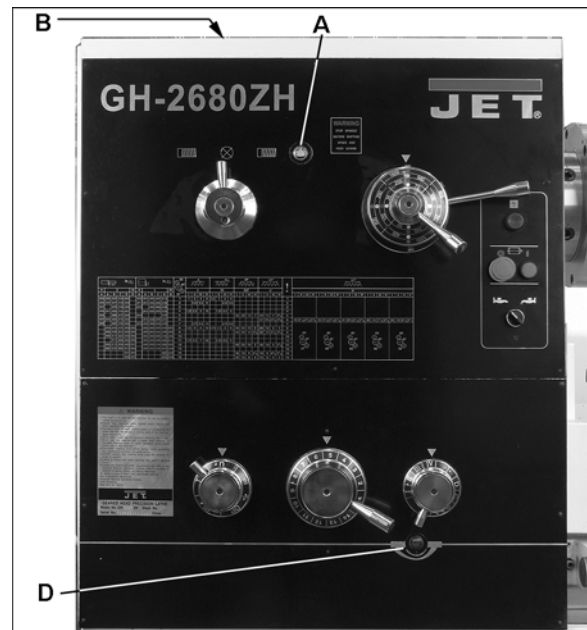
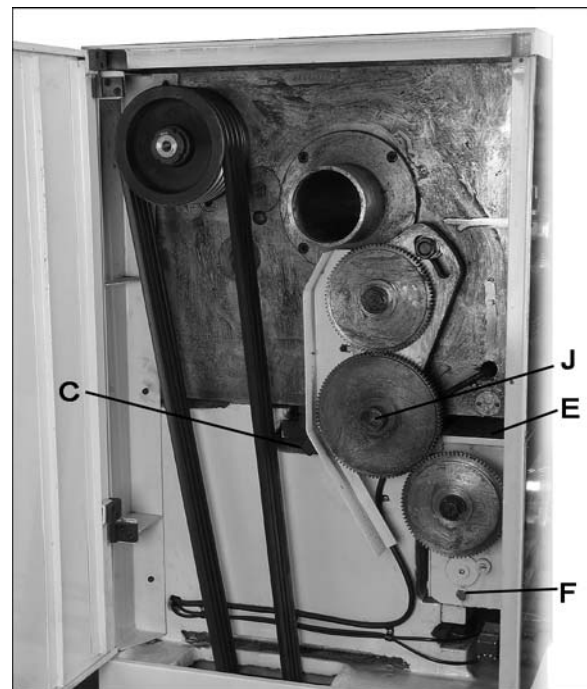

Figure 9 – Headstock lubrication
Figure 10 – Lubrication points
2. **Headstock** – Oil must be up to indicator mark in oil sight glass at the rear of the headstock. [NOTE: The sight glass on the front of the headstock (A, Figure 9) verifies operation of the oil pump, the one at rear of headstock (not shown) indicates oil level]. Top off with SAE 20W oil. Fill by removing the rubber mat and unscrewing the plug (B) on top of the headstock.
3. To drain the headstock, remove the nut on the drain pipe (C, figure 10). Drain oil completely and clean out all metal shavings, then rinse the casting case with kerosene.
5. **Change Gear Axle** – Periodically remove end plug (J, Figure 10) and press #2 lithium grease into the axle to lubricate the gear axle and sleeve. Coat all gears with non-slinging grease.
6. **Gearbox** – Oil must be up to indicator mark in oil sight glass (D, Figure 9). Top off with SAE 20W oil. To add oil to the gearbox, pour it into the pan (E, Figure 10). To drain, remove drain plug (F, Figure 10). Drain oil completely and refill after the first three months of operation. Then change oil in the gearbox every six months.
14. **Travel Setting Rod** – Periodically insert SAE 20W oil into the ball oiler on each end of the rod (Figure 9).